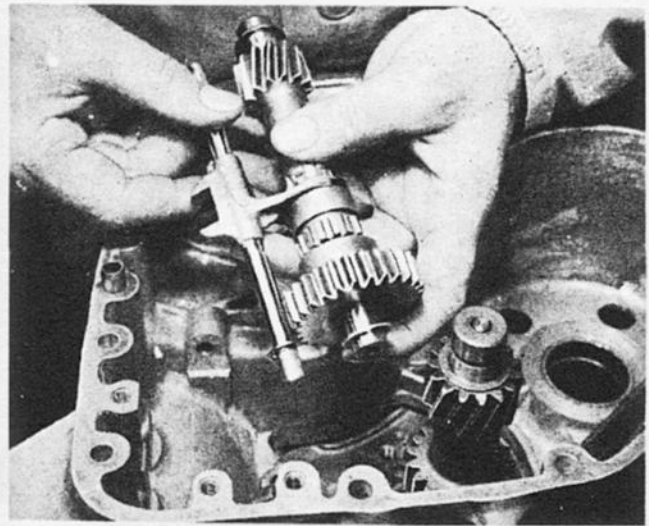

FIG 6:3 Reverse shaft removal
- 4 Remove the reverse shaft in the same manner as the mainshaft (see FIG 6:3).